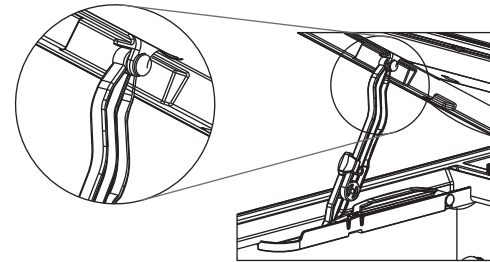

Figure 22: Securing the hood supports
15. With your free hand, snap the upper and middle legs of the hood supports together on both sides and position the hole at the top of the upper leg in the recess provided in the hood. Insert the upper support pins to connect the supports to the hood (some force might be required) (Fig. 22). Do not use any tools, like a pliers or hammer, to perform this operation. If you experience difficulty, check the alignment of the pins with the hole and try again.